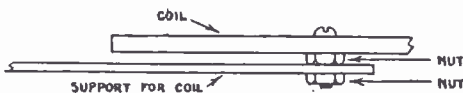

Fig. 7C
Now secure the disc with the fewest turns, or the primary coil, to the end (A) of this strip by means of a short 1/8-inch bolt. First slip the bolt through the hole in the strip, then screw a nut on tightly, then place the coil over the bolt and screw a second nut on; then file the bolt end down flush with the surface of the second nut as shown in Figure 7C. Secure this strip bracket that holds the coil to the